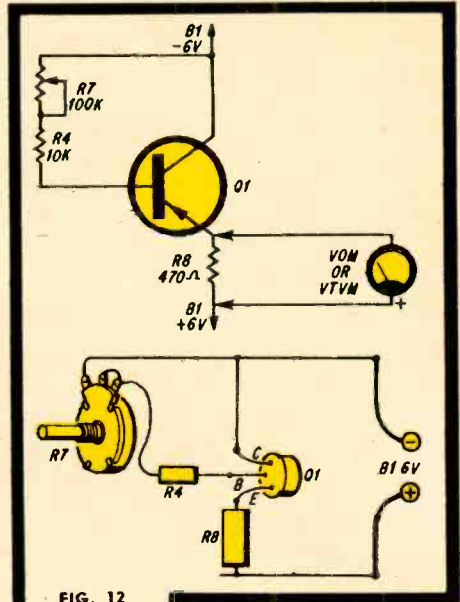

FIG. 12
**Common-Collector Gain.** Fig. 12 shows how a common-collector circuit's current gain is checked, using the same techniques that served us for the other circuits. The R4/R7 combination is adjusted for a total resistance of 60,000 ohms. (We can ignore R8.) Measure the voltage across R8 and divide this value by 470 (ohms) to arrive at the current flowing in the emitter circuit. As in the common-emitter arrangement, a fairly high current gain is obtained.